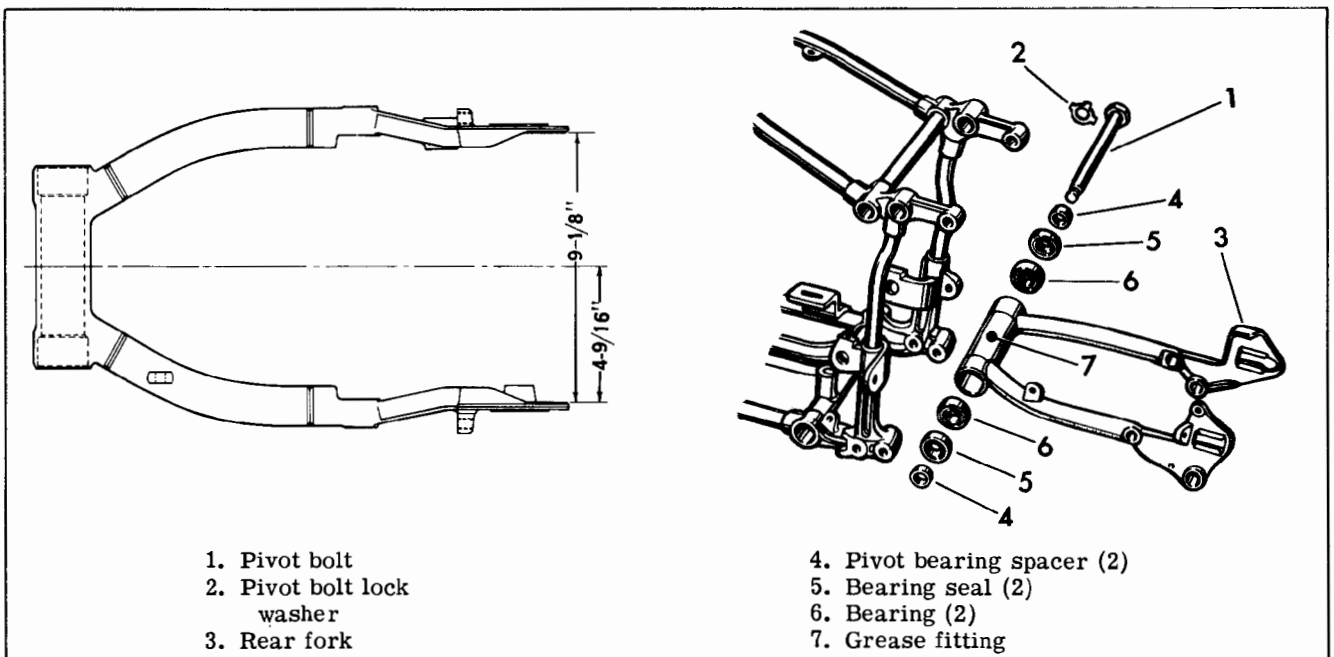

Figure 2-37. Rear Fork - Exploded View
4. See Figure 2-37. Turn back locking ear on pivot bolt lock washer (2) and turn out pivot bolt (1). Remove fork (3) from frame. With appropriate size arbor pin, push out bearing spacer (4), bearing seal (5) and bearing with outer race (6) from each side of fork pivot bearing.
2. Rough check the rear fork for correct alignment. Dimensions shown in Figure 2-37 will provide enough information to determine if fork is far enough out of alignment to require re-aligning or replacement. Straightening a badly bent fork requires special tools and fixtures for holding, bending and gaging. If facilities are not available locally, damaged rear fork can be returned to the factory for repair through any authorized Harley-Davidson dealer.